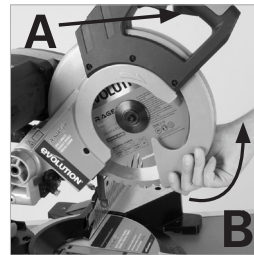

Fig. 39
- Press the lower blade guard locking trigger (A) and rotate the lower blade guard (B) up and into the upper blade guard. (Fig. 39)